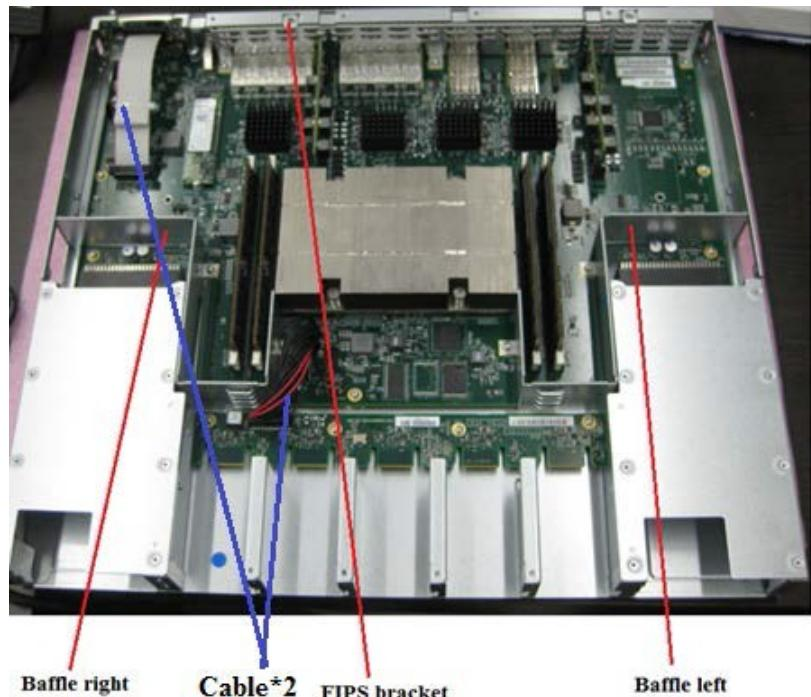

Figure 5 : Remove all module on main board and LED / FAN Module ,total 11pcs.
7. Remove all module on main board and LED/FAN board, total 11pcs (see Figure 5).